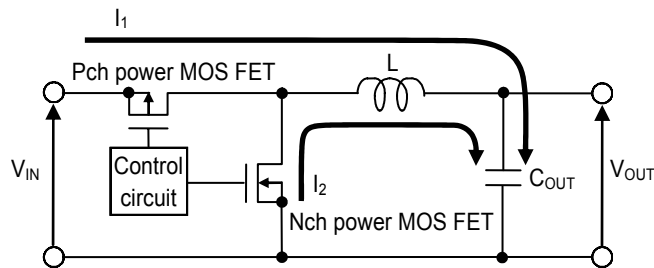
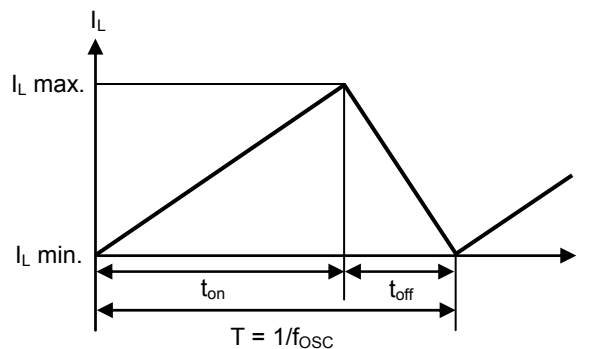

Figure 7 Basic Circuit Drawing of Step-down Switching Regulator
Figure 8 Continuous Mode (Current Cycle of Inductor Current (I_L))
The S-8550/8551 Series is a step-down synchronous rectification switching regulator based on constant PWM control. **Figure 7** shows the basic circuit diagram.
When the Pch power MOS FET is turned on, current I_L flows in the direction shown by the arrow in **Figure 7**, and energy is stored in the inductor (L). When the output capacitor (C_{OUT}) is charged, supply of the output current (I_{OUT}) is started at the same time. The inductor current (I_L) gradually increases in proportion to the ON time (t_{ON}) of the Pch power MOS FET as shown in **Figure 8** (changes from I_L min. to I_L max.). When the Pch power MOS FET is turned off, the Nch power MOS FET is turned on and I_L tries to hold I_L max. Consequently, current I_2 flows in the direction shown by the arrow in **Figure 7**. As a result, I_L gradually decreases and reaches I_L min. when the OFF time (t_{OFF}) has elapsed. When t_{OFF} has elapsed, the Nch power MOS FET is turned off and the next cycle is entered. The above sequence is repeated.